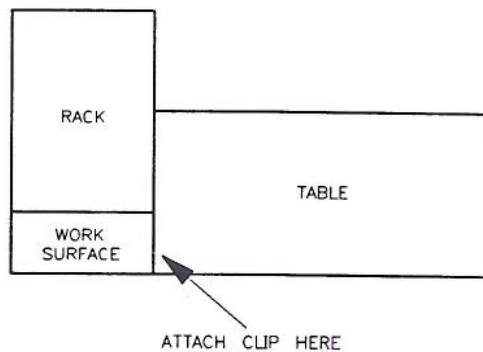

Figure 3-3. L-Shaped-Position Table Attachment
- b. If you wish to attach the table in the L-shaped position (see Figure 3-3), continue with step 2.